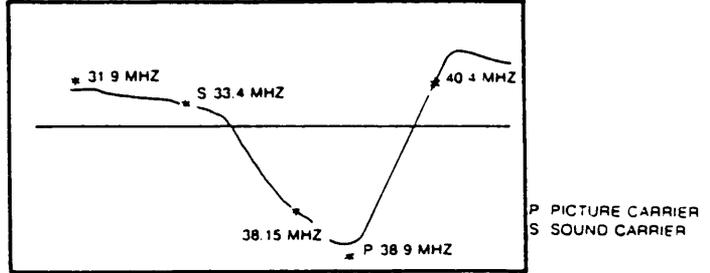

Fig 2. VIF Response Curve
- 5) Adjust L203 (VIF Detection Coil) for maximum amplitude at the picture carrier mark (38.9 MHz) (Fig. 2).